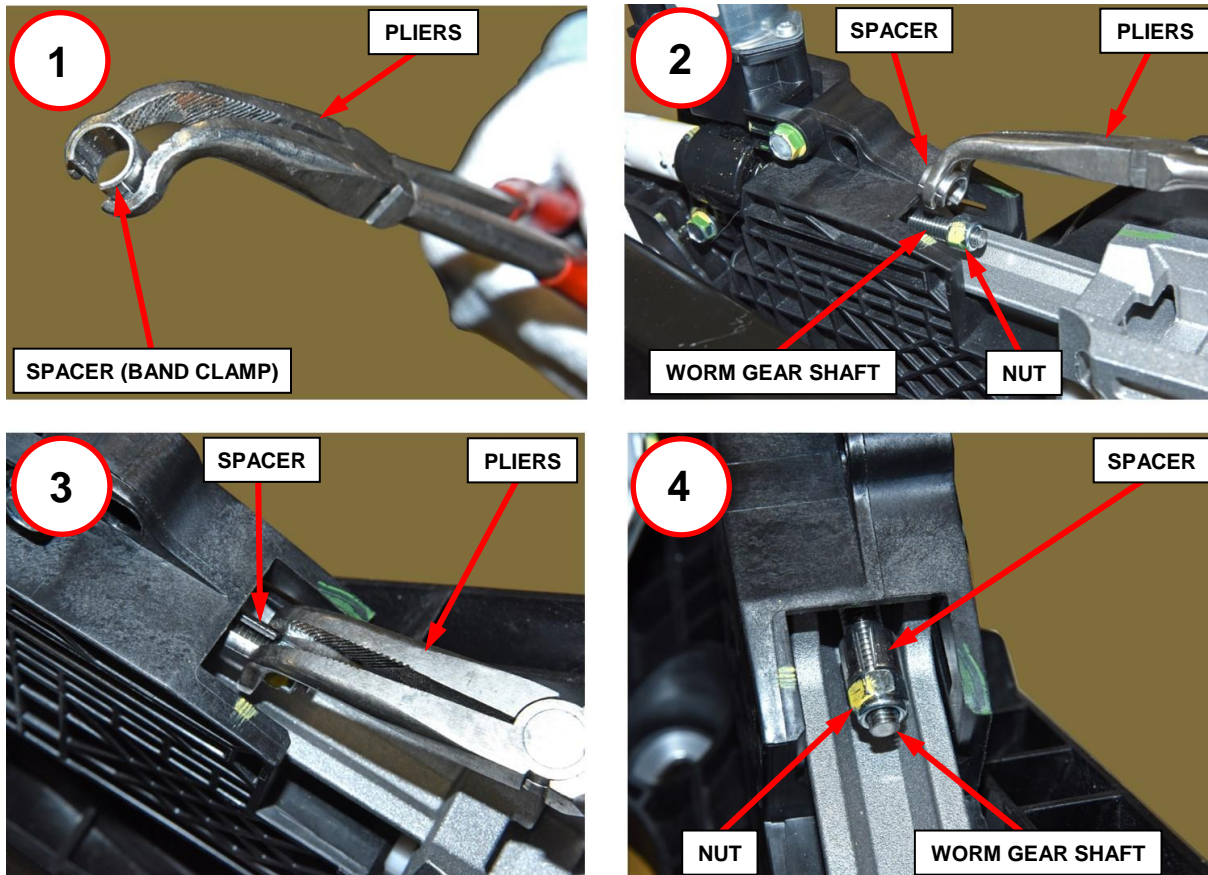

Figure 5 – Worm Gear Shaft Spacer (Band Clamp) Installation
- 7. Using pliers, crimp the spacer completely around the pedal assembly worm gear shaft so that it will not come off. Crimp must be tight enough to eliminate spacer rotation and movement in order to prevent any possible rattle noises (Figure 5).